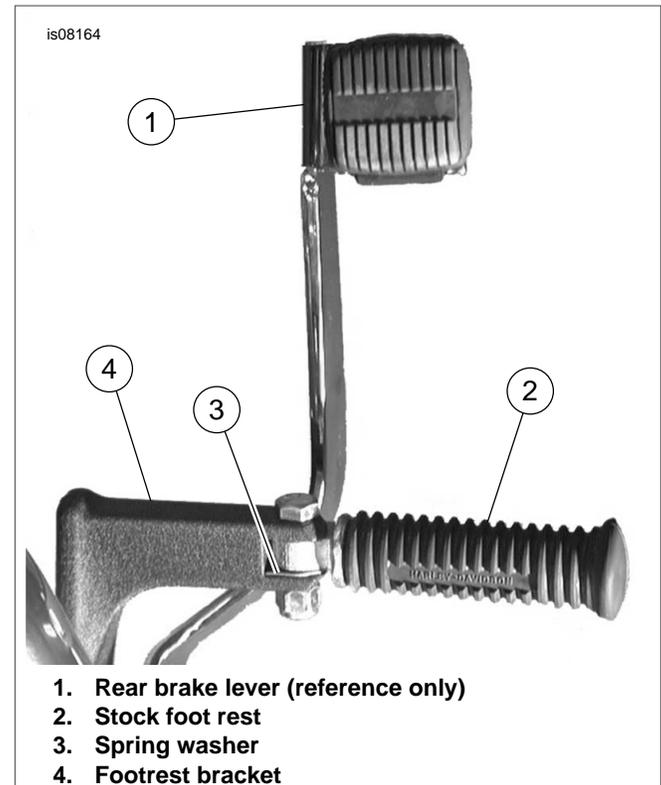

Figure 1. Stock Foot Rest, Right Side
1. See Figure 1. On the right side of the motorcycle, remove the fastener securing the footrest to the footrest bracket. Save the hardware for installation.